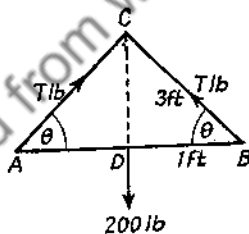

Fig. 71
(3) An engine weighing 200 lb is lifted by a crane. The lifting wire sling is attached symmetrically to the engine at points 2 ft apart, and to the crane hook. If each half sling is 3 ft long find the tension in each wire (see fig. 71).